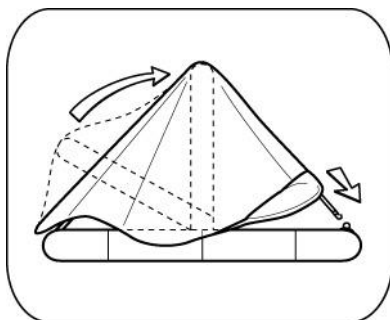

**FIGURE 12**
5. Pull orange canopy fabric down over yellow arch tube (See Figure 12).